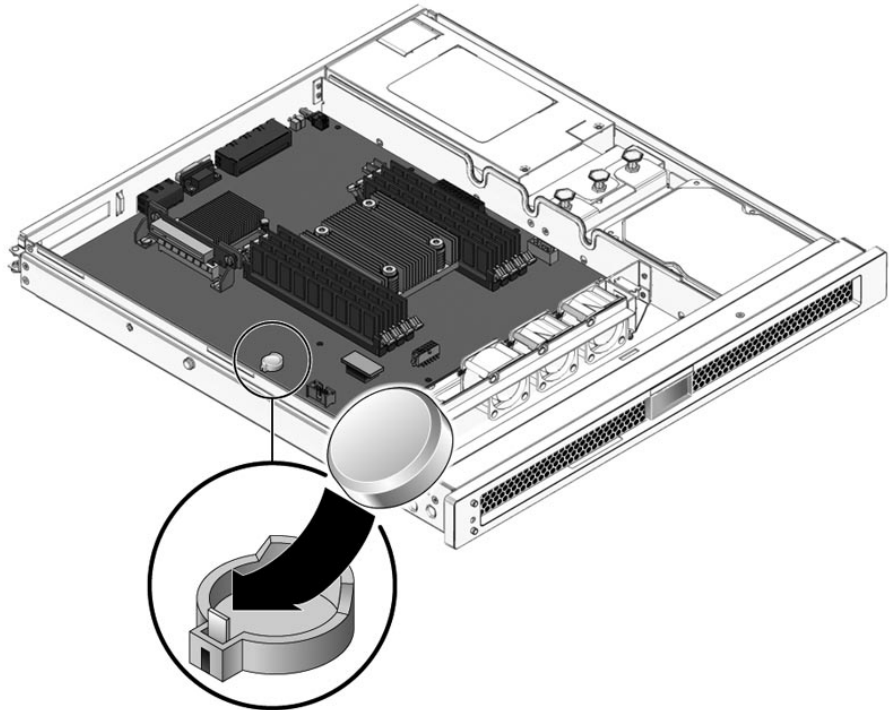

FIGURE 5-13 Installing the Clock Battery on the Motherboard
2. Press the new battery into the motherboard with the + facing upward (FIGURE 5-13).